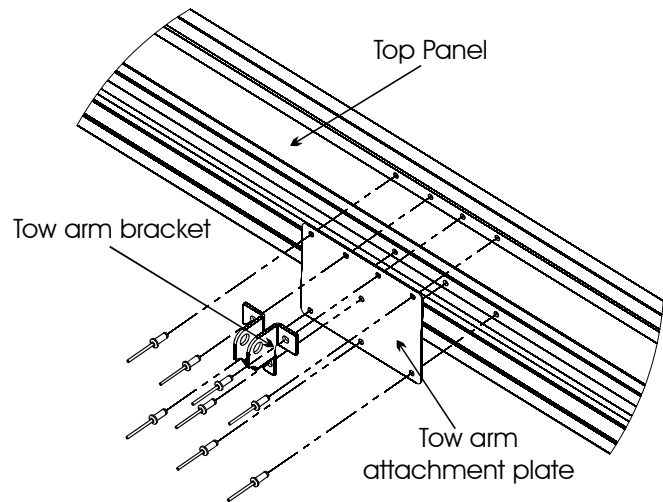

Fig. 3
- 2 Using the pre-drilled holes in the Tow arm attach plate, drill 6 xmm holes through the mounting flanges and rivet the bracket in place only through the 4 corner holes for now. (Fig. 3)
- 3 Place the tow arm bracket in place as shown in fig. 3. Rivet in place using the remaining holes.